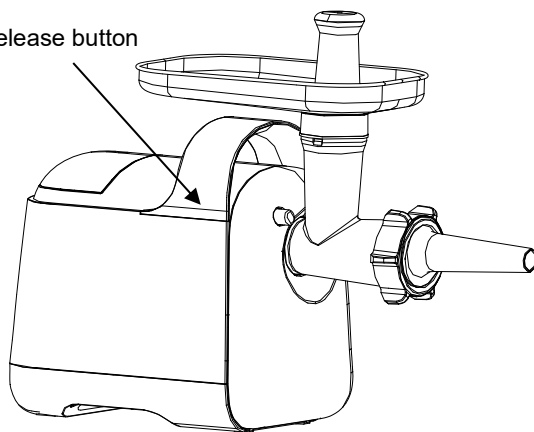

Fig 6
2. Assemble the ream meat tube asm into the main machine. Press the Release button with thumb one hand (see arrow fig.6), and hold the ream meat tube with the other hand, insert it into the hole of the main machine and turn it anti-clockwise until it cannot move any longer . Release the Release button, the ream meat tube is fixed on the main machine.